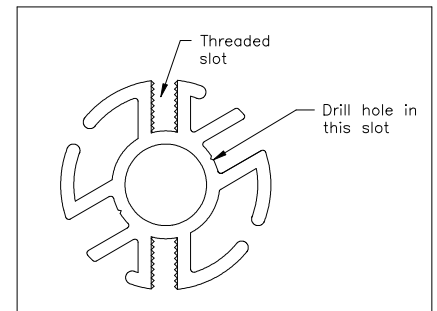

FIGURE 1
- 3) Drill a 3/8" hole, 1/2" from each the end of the rollerbar you just cut. Start the hole in one of the smooth-sided slots, **not** a threaded slot (see Figure 1 on previous page). Slide one end of the rollerbar over the DD motor output shaft and secure with a 5/16" carriage bolt, washer, and lock nut.